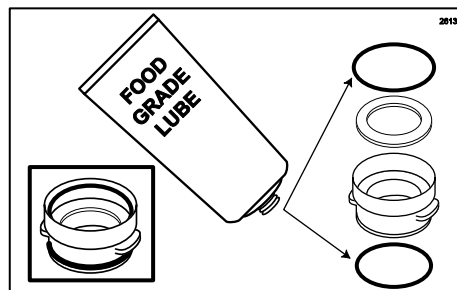

Figure 110
1. Ensure that the Spout Adapter has been sanitized according to instructions in the SCHEDULED MAINTENANCE section. Then lube and install the white gasket and both o-rings in their proper places inside and outside of the Spout Adapter. (See Figure 110.)